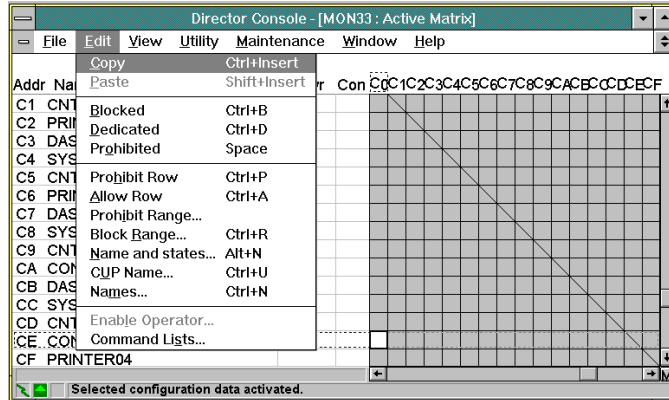

Figure 3-14. Block Address Range
- a. From the Console, pull down the *Edit* menu on the Director's active matrix window and select *Block Range*. Refer to Figure 3-14.